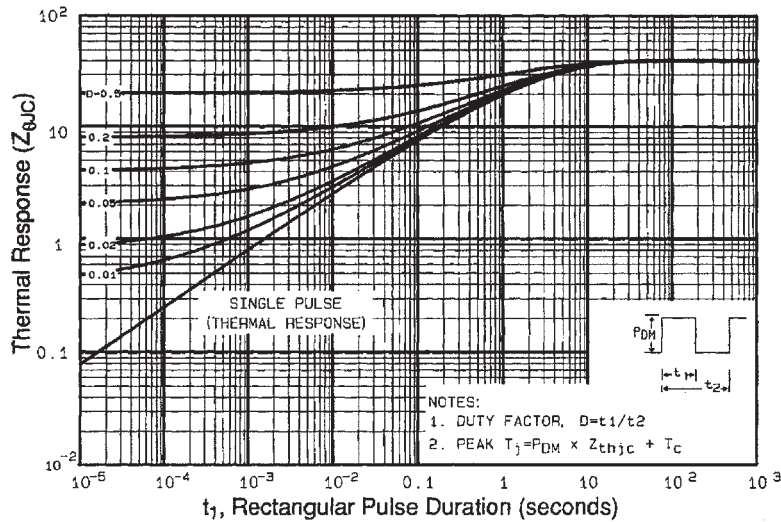

Fig 11. Maximum Effective Transient Thermal Impedance, Junction-to-Case
- ① Repetitive rating; pulse width limited by max. junction temperature. (See fig. 11)
- ② $V_{DD}=25V$, starting $T_J = 25^\circ\text{C}$, $L = 25\text{mH}$